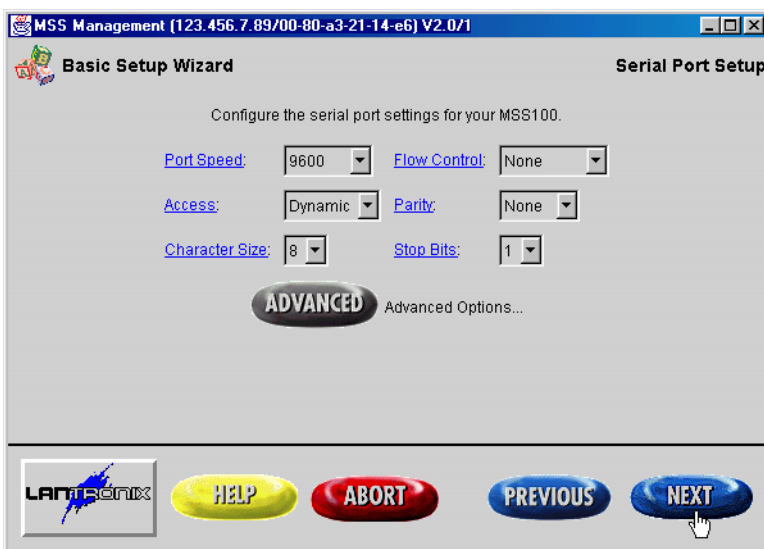

Figure 18 - Serial Port Setup
16. There are six fields that need to be set (see Figure 18 on page 16). Each of the six fields has a pull down menu; click on the down arrow beside each field and a list of available options for that field appears (the Advanced Options should be left at their default values). Click on each pull-down menu, scroll through the list of options and select the option per the following list.